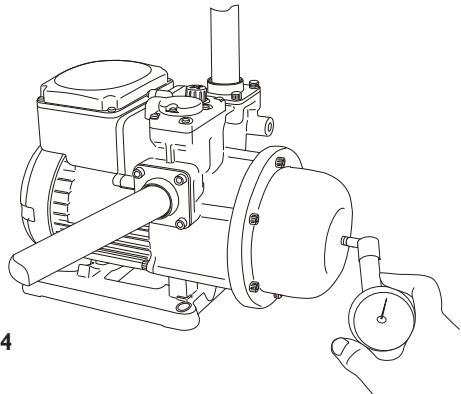

Fig. 4
4. Pressure tank air charge should be checked at regular intervals of every 3 months and after the pump has not been used for a prolonged period. To check the Pressure Tank air pressure, turn off power, open a tap on the discharge line to release pressure from the pump, unscrew the black plastic cover and apply an accurate pressure gauge to the valve as shown in Fig 4.